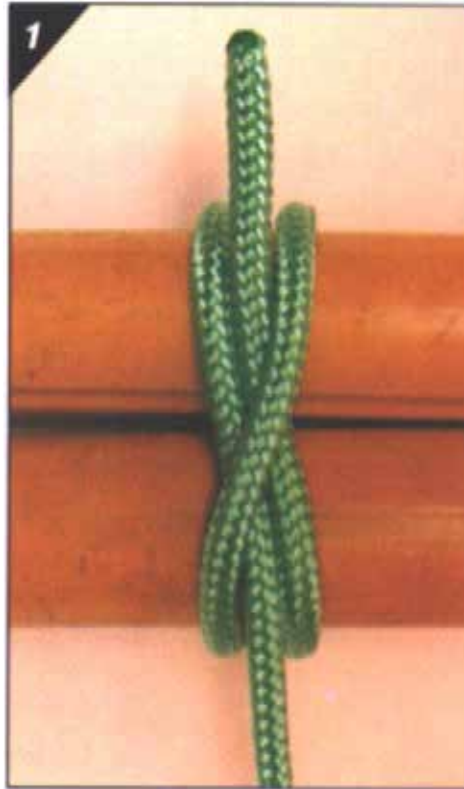

Figure 18 Step 1
**Round lashing.** Sometimes called a sheer lashing, the round lashing has two distinct uses. First, it creates an "A" frame or set of using a single lashing. Second, two or three round lashings can be used to bind together a couple of poles to make a longer spar. To make an "A" frame, two poles are put side by side; the lashing is made at one end as illustrated in Figures 18–24. A slightly different approach is used to join two poles together to make a longer pole. The procedure is exactly the same, except the initial and final clove hitches are tied around both poles and there is no space left between the poles and no frapping is used. For extra strength to the spar, add extra lashings at the opposite end and middle of the adjoining poles.